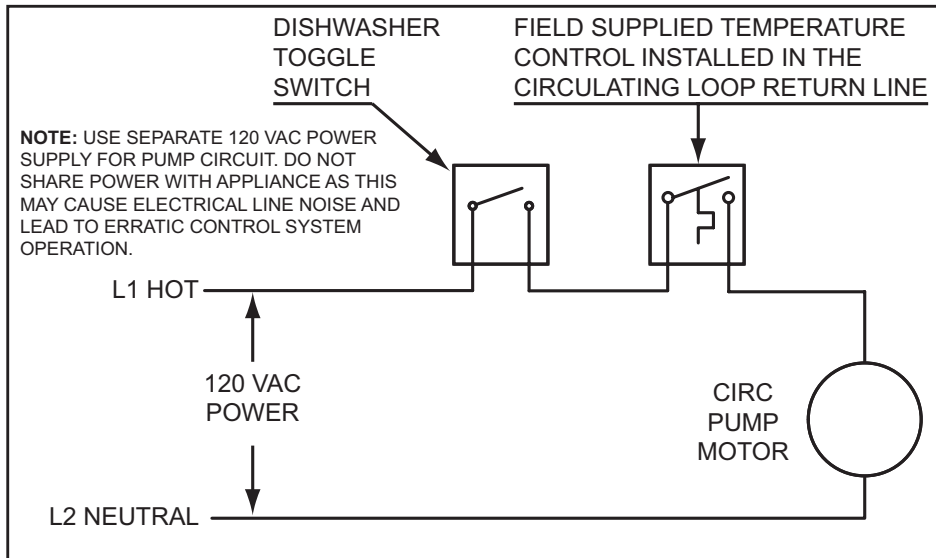

Figure 60
7. If a pump is being installed in a recirculation loop between the water heater and a commercial dishwasher wire according to Figure 60 on page 67.